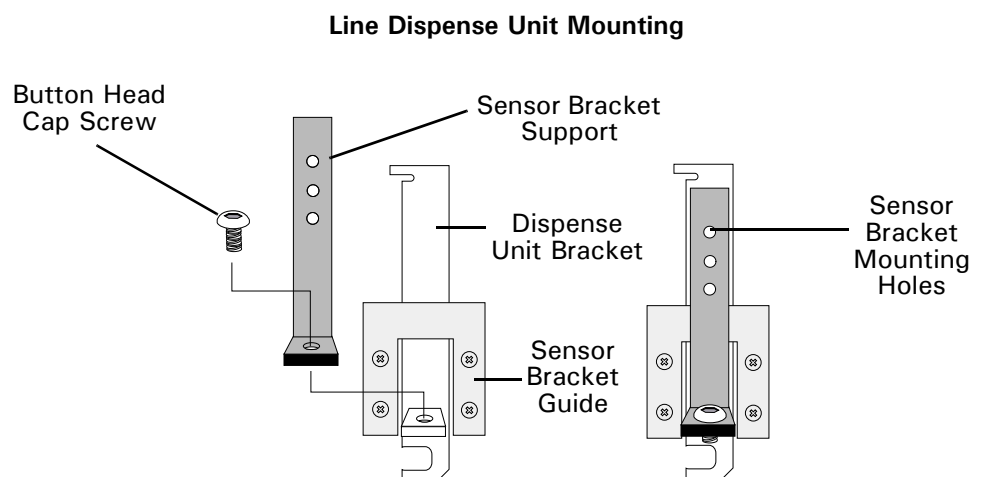

Figure 3
- b. For Line Dispense Unit assemble sensor bracket support onto dispense unit bracket and secure with socket button head cap screw. See Figure 3.